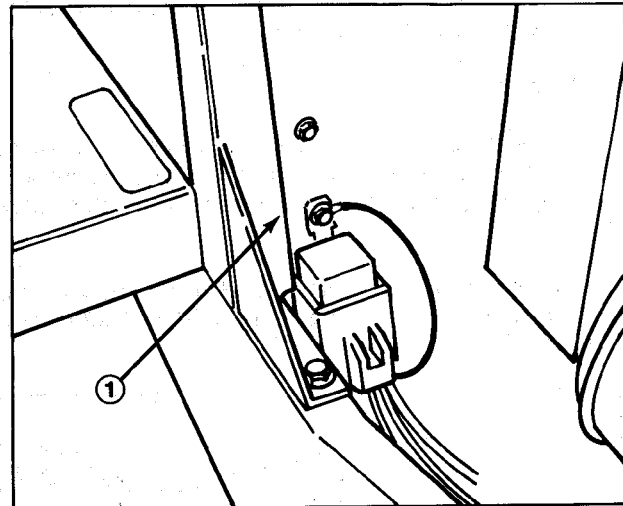

Figure 5
2. On the left side of the radiator, locate the pre-drilled hole midway between the center and bottom radiator mount screws and use it to mount the starter relay (Fig. 5).